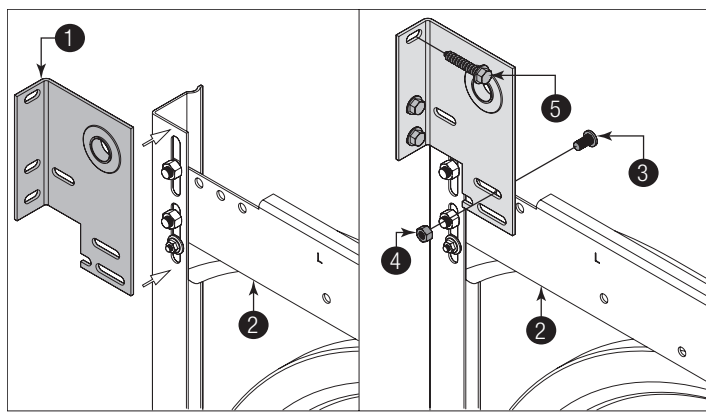

Figure 43, Left Side Shown (For M4. Bracket)
**See Figure 43 for the following steps.**